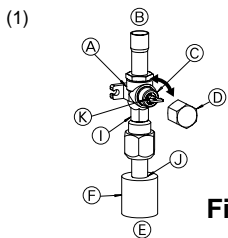
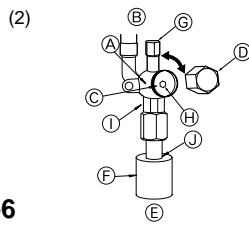

Fig. 4-6
Fig. 4-7
- (1) Gas side(Fig. 4-6)
- ① Remove the cap, pull the handle toward you and rotate 1/4 turn in a counterclockwise direction to open.
- ② Make sure that the stop valve is open completely, push in the handle and rotate the cap back to its original position.
- (2) Liquid side(Fig. 4-7)
- ① Remove the cap and turn the valve rod counterclockwise as far as it will go with the use of a 4 mm hexagonal wrench. Stop turning when it hits the stopper. (ø9.52: Approximately 10 revolutions)
- ② Make sure that the stop valve is open completely and rotate the cap back to its original position.